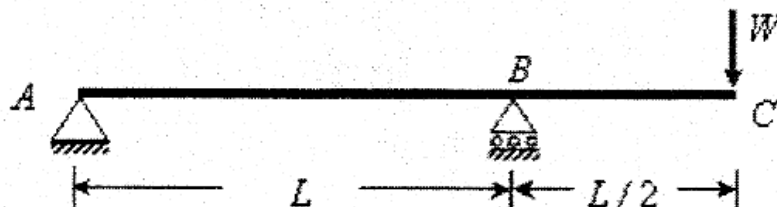

Figure 5
- (b) Determine the deflection at the free end of the beam shown in Figure 5 using Conjugate beam method and verify the same by moment area method. (13)